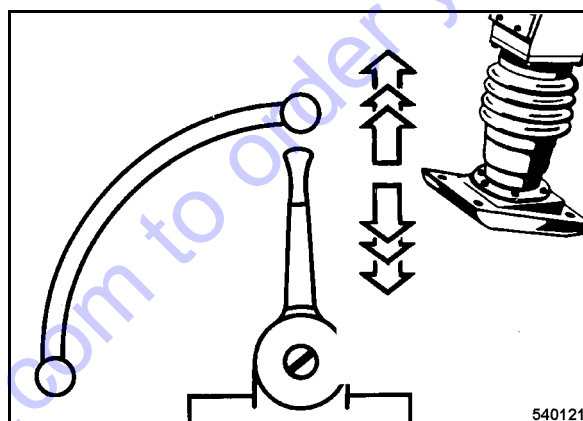

Fig. 17
- Set the throttle lever (Fig. 17) to "MAX"-position.